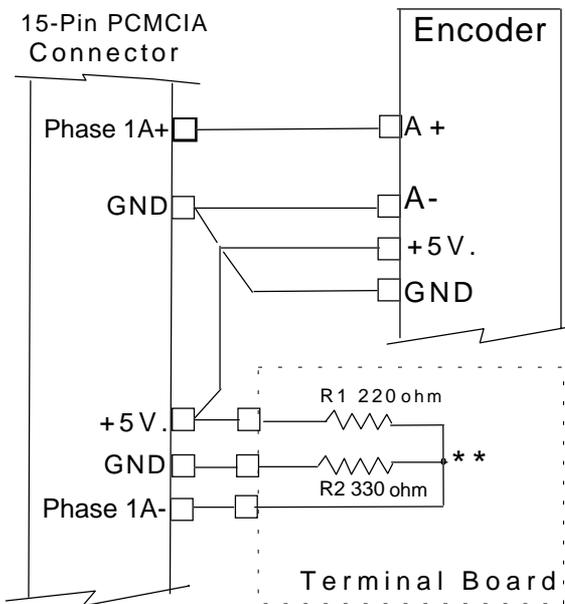

Figure 3-2. Single-Ended Configuration
**Single-Ended Configuration** (shown here in Figure 3-2 for Phase A signals, same connections for Phase B and Index)